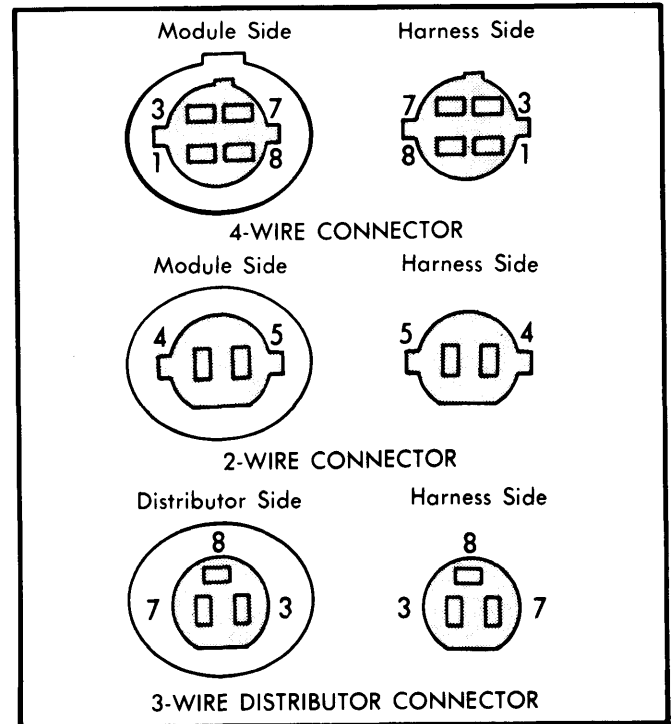

Fig. 2 Control Module and Distributor Connectors for Dura-Spark II
**Electronic Control Module** – Each Dura-Spark II module has 6 wires (a 2-wire connector and a 4-wire connector). See Fig. 2. The red and white wires are the ignition feed wires – the white for cranking, the red after the engine begins to run. The red wire circuit contains a 1.1 ohm wire resistor. The current in the primary circuit of the ignition coil is turned off and on by the green wire. The orange and purple wires transmit signals to the module from the armature and pick-up coil in the distributor. The black wire is used to ground the distributor. The module is "ON" whenever the ignition switch is in the "RUN" or "START" position.